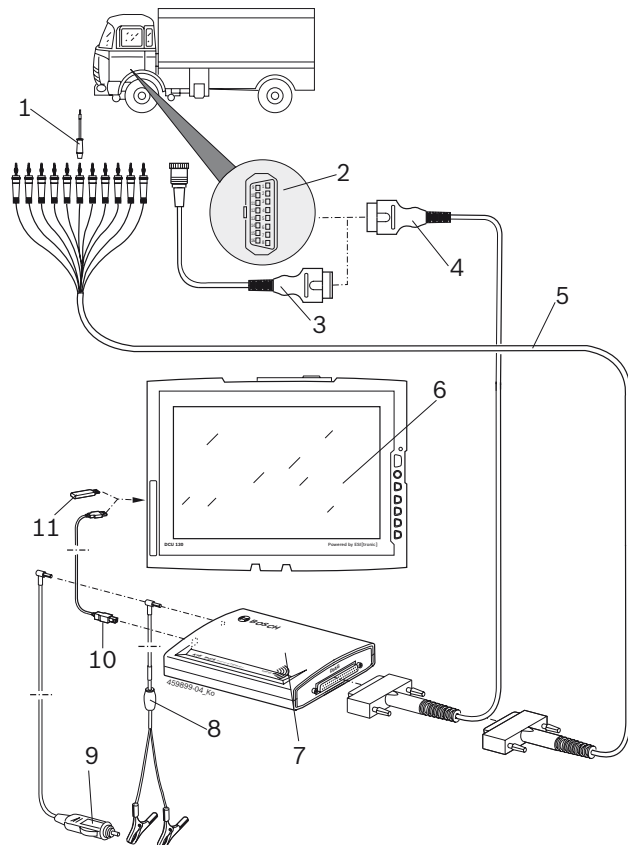

Abb. 3: Connection diagram KTS Truck
- The OBD diagnostic cable (fig.3, item 4)
- OBD diagnostic cable together with vehicle-specific adapter cable (fig. 3, item 3) (special accessory)
- Universal adapter cable (fig. 3, item 5).